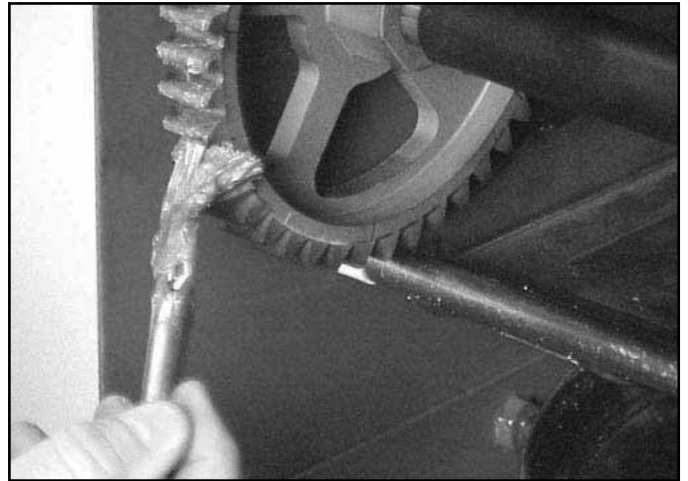

Fig 163
15. Lightly coat the 44-tooth sprocket with anti-seize (Fig. 163).